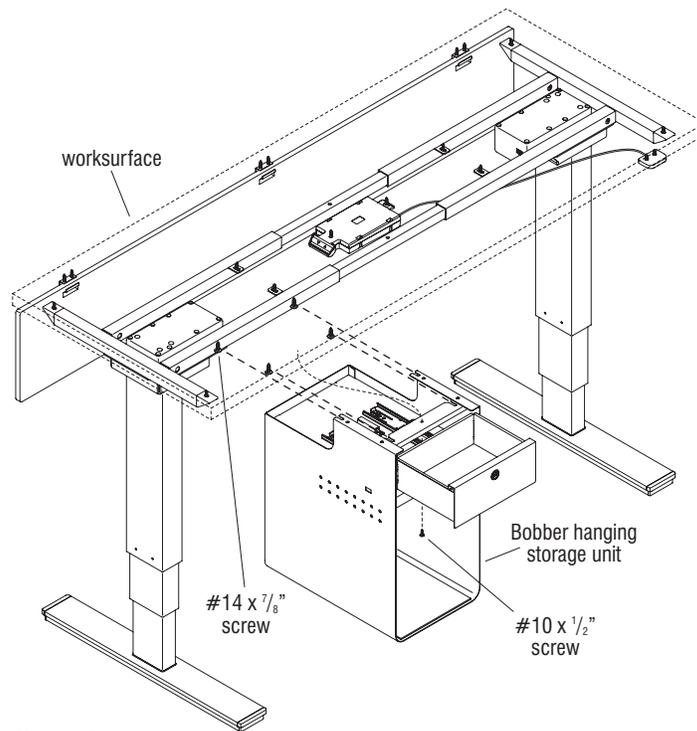

Figure 4
17. Carefully lift the Bobbr storage unit up and align the slots on top of the storage unit with the screws underneath the work surface. Slide the storage unit back until the screws reach the end of each slot (Figure 4).
18. Fully extend the top drawer out. Locate the suspended storage unit's front, middle hole location and associated fixed shelf access hole below it. Place the previously removed #10 x 1/2" screw onto a 6" long #2 Phillips tip chucked into a cordless screwdriver. Insert the screw up through the fixed shelf access hole and into the mounting hole at the front, middle of the storage unit and secure the front to the work surface (Figure 4).
19. Using a cordless screwdriver and 6" long #2 Phillips tip, one at a time insert the tip through the four fixed shelf access holes to tighten the four #14 x 7/8" screws which were loosened in step 3. Tighten the four corner screws to fully secure the hanging storage to the work surface (Figure 4).